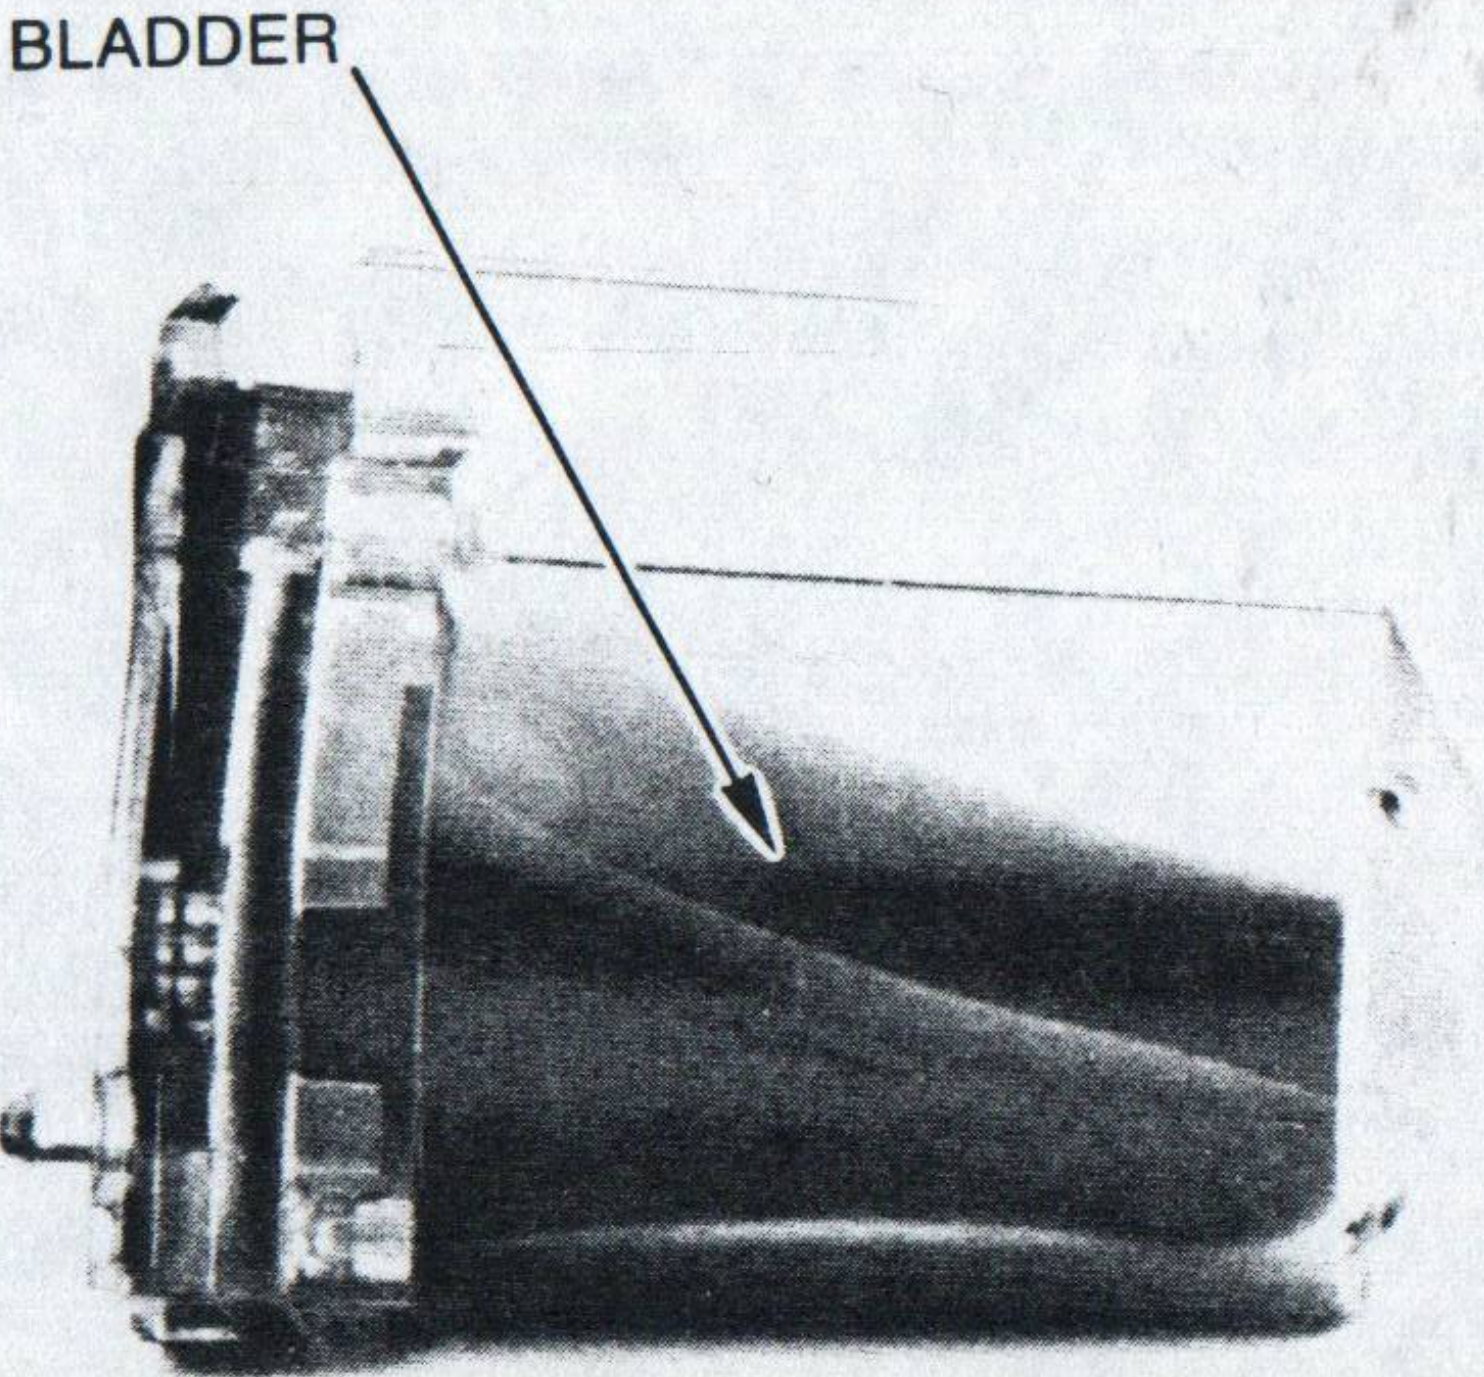
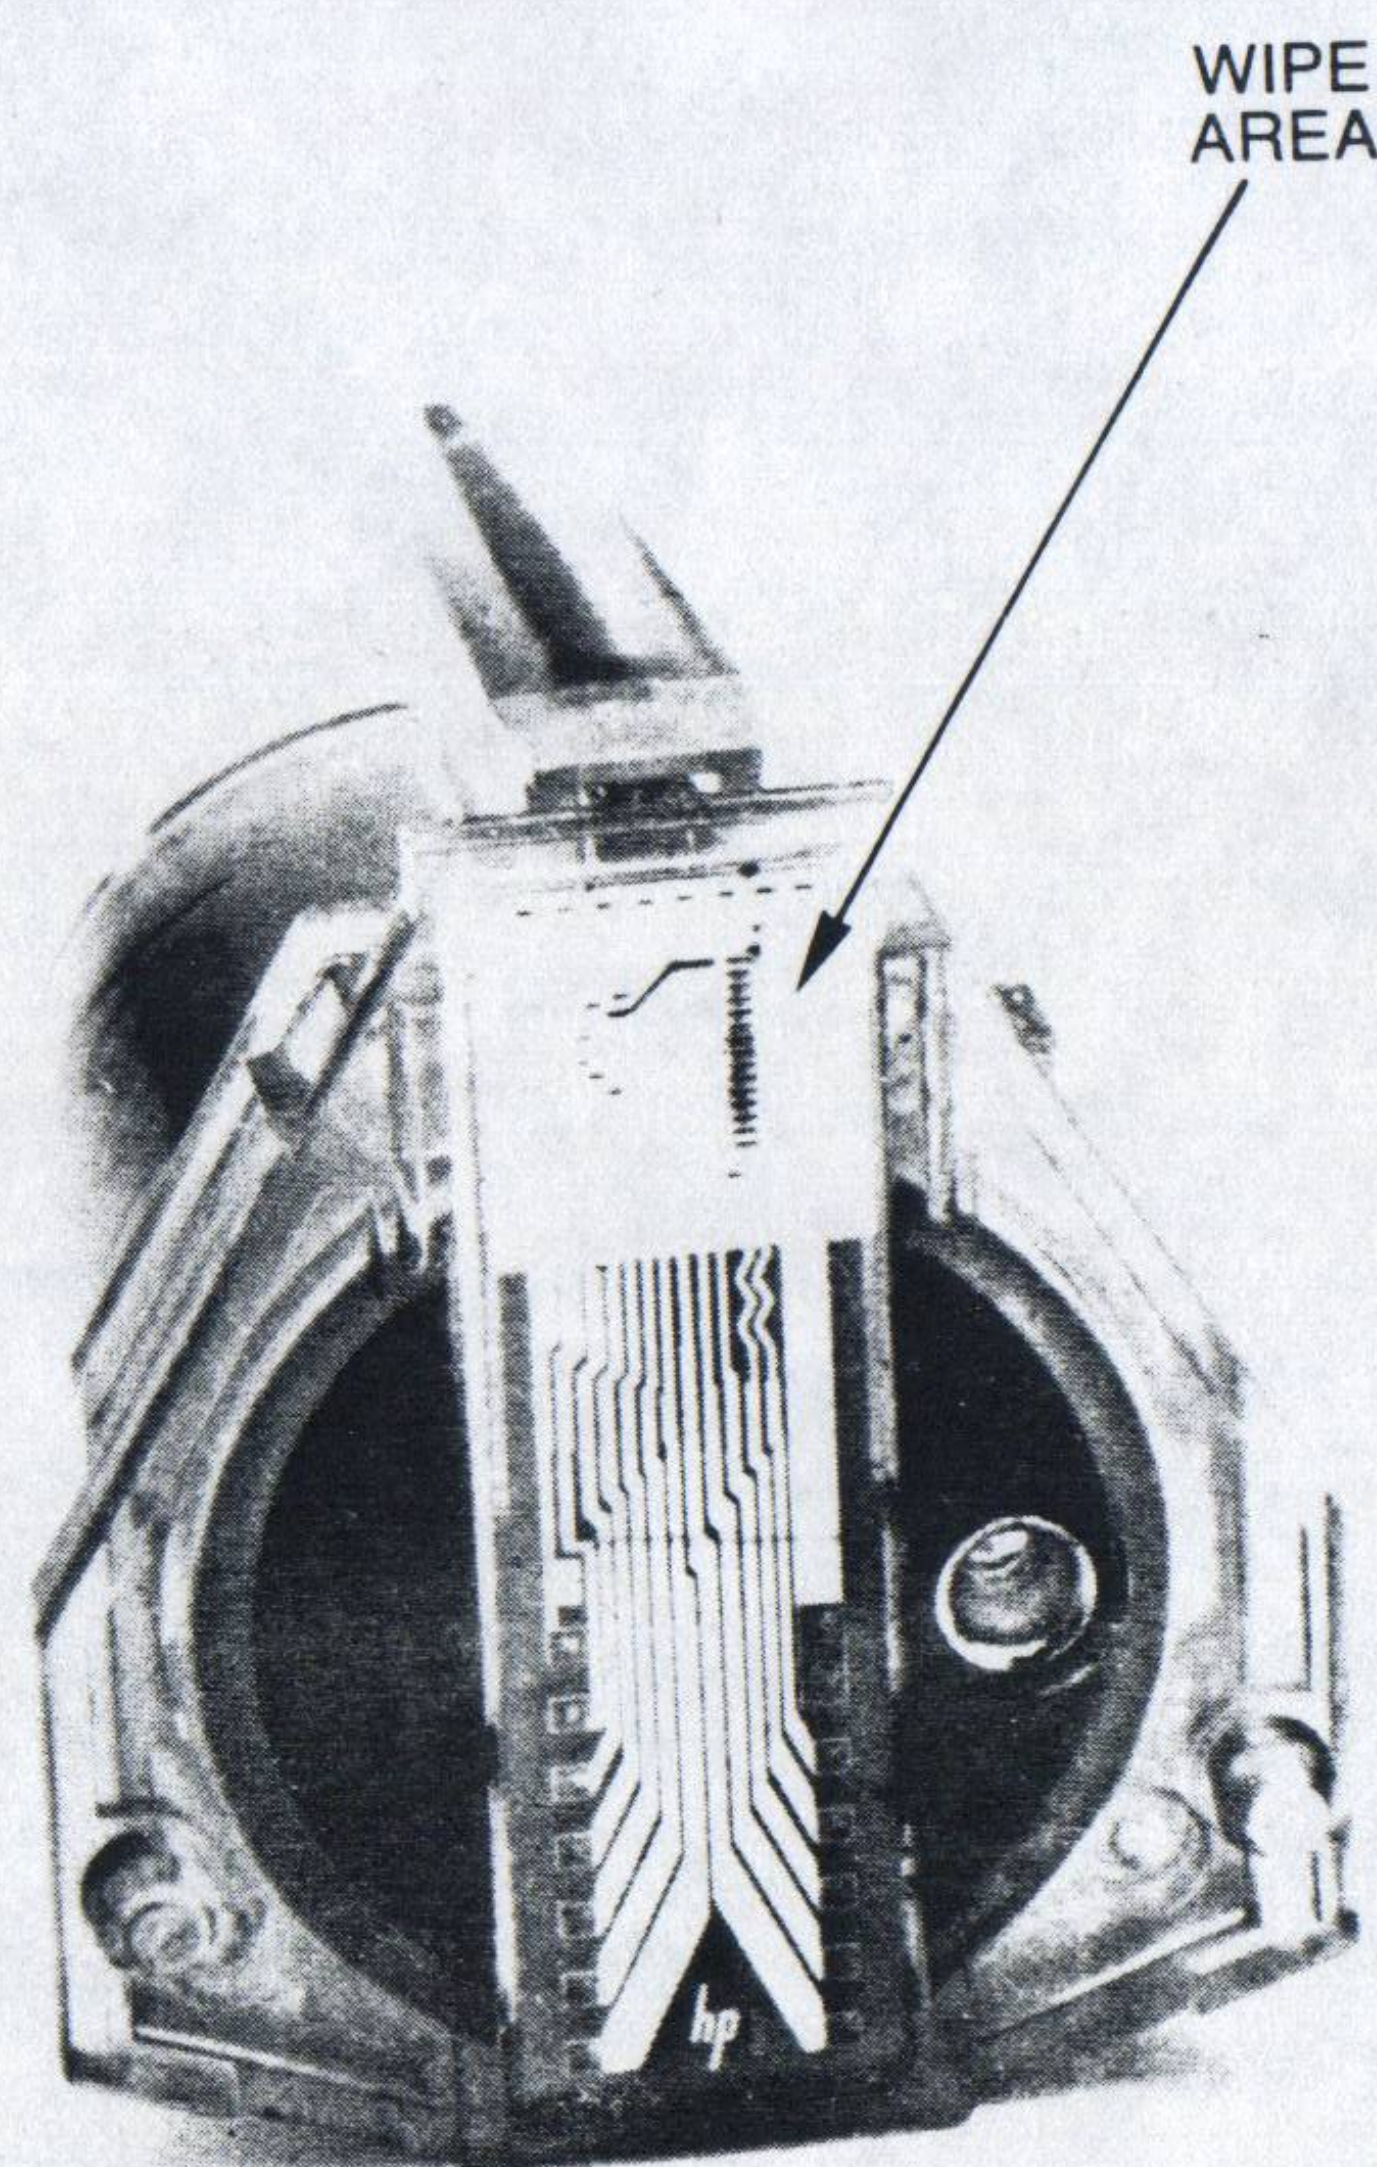
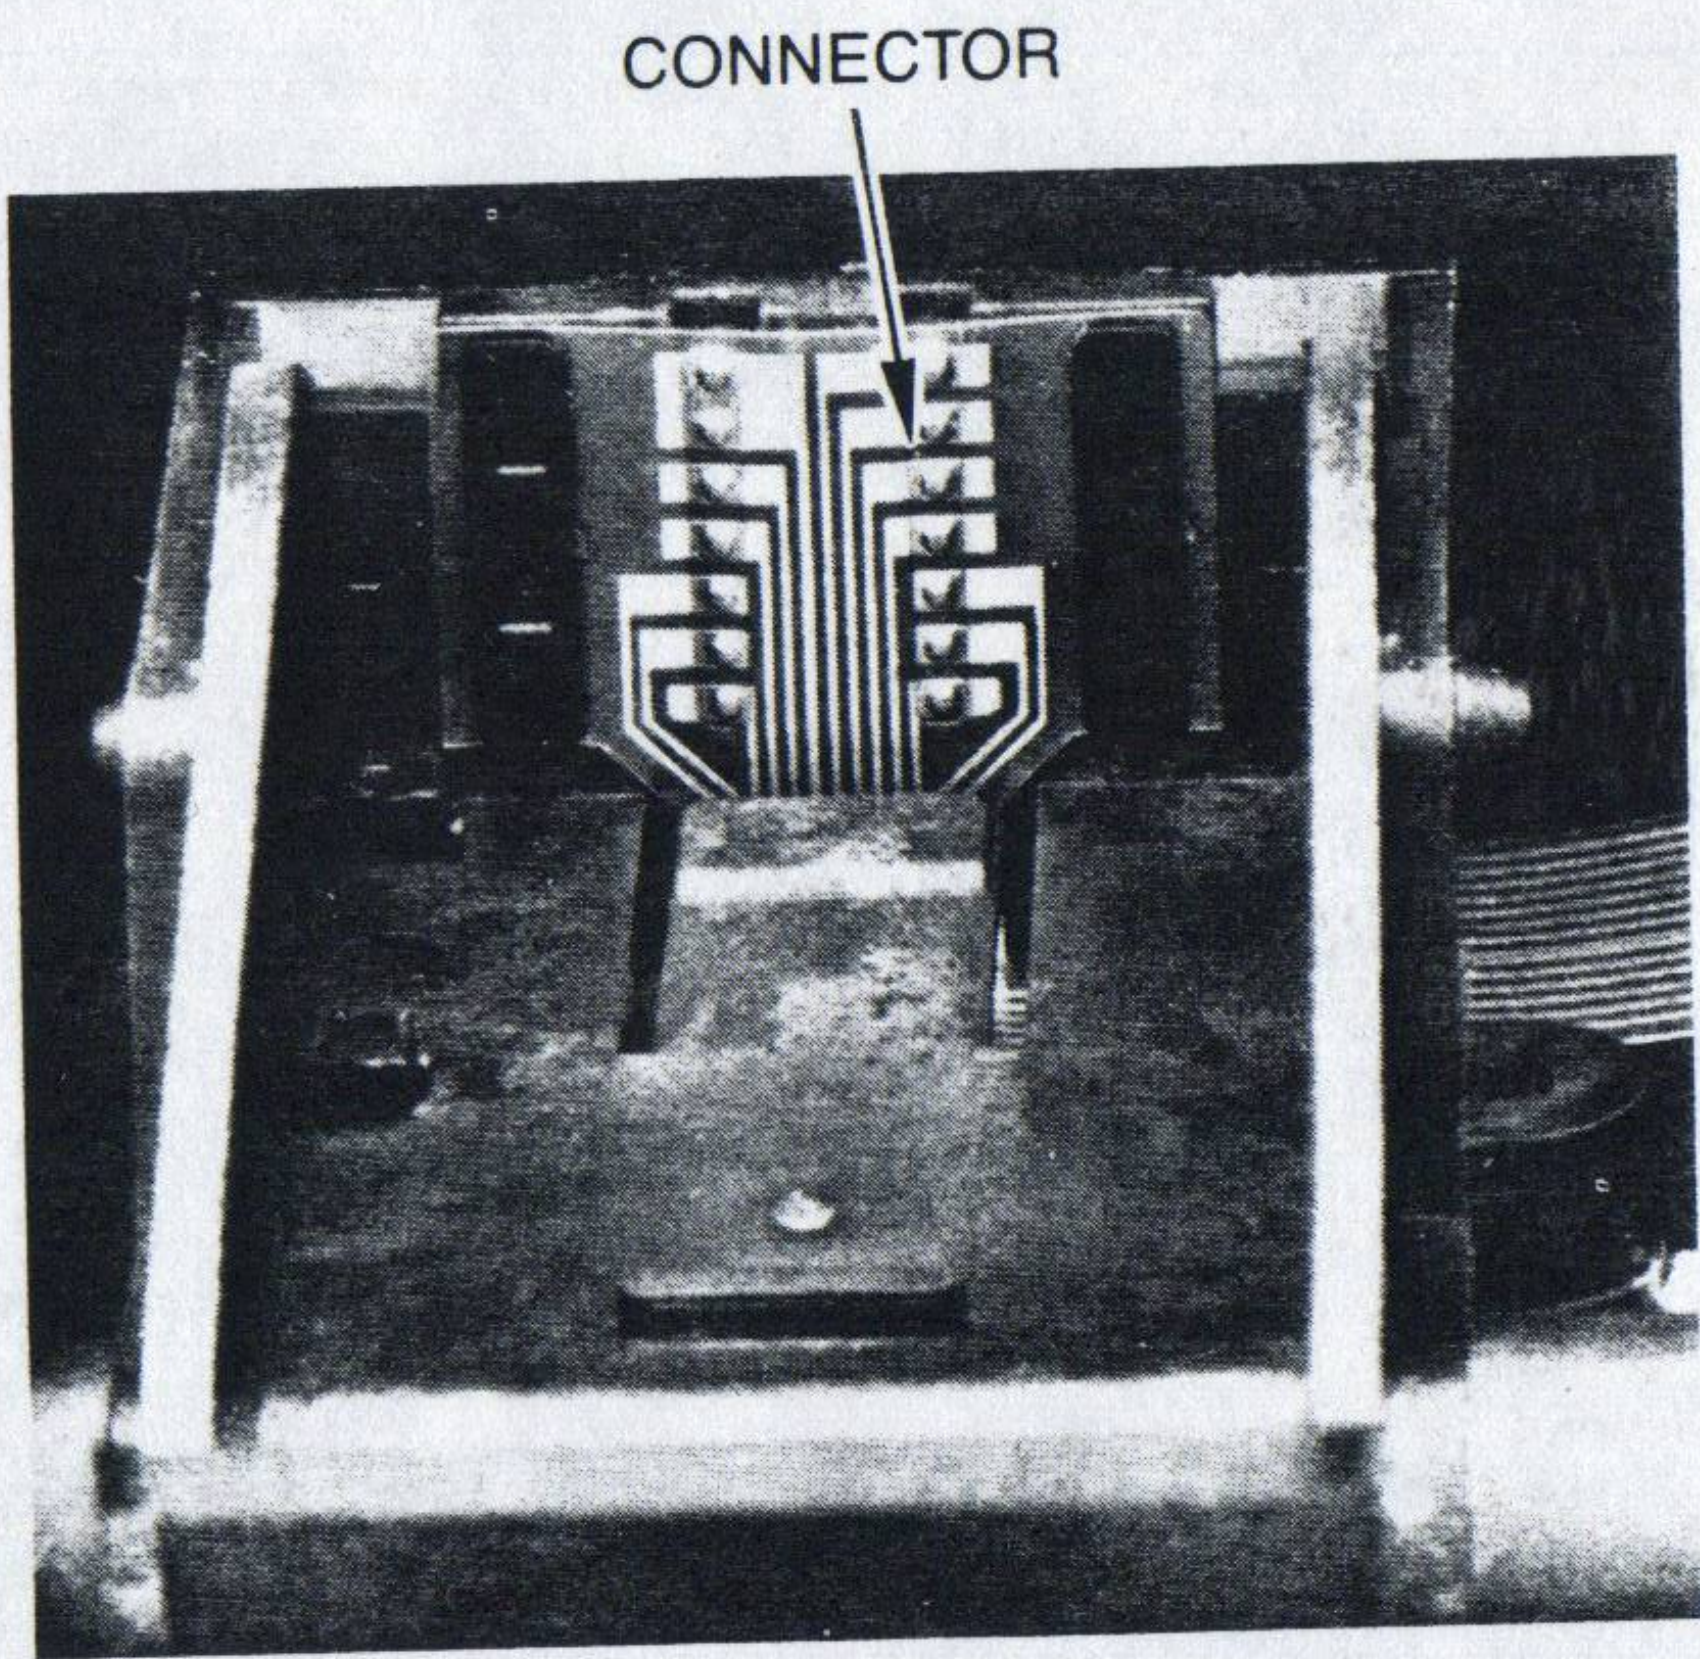

Figure 4-1 Empty Cartridge
Figure 4-2 Wipe Area
Figure 4-3 Carriage Electrical Connector
7. Print quality is poor, rows of dots are missing from printouts, or the carriage moves but produces no print.	<ul style="list-style-type: none">• Ensure that there is sufficient ink in the cartridge by viewing the bladder. If the bladder is collapsed, replace the cartridge (see Figure 4-1).• Ensure that the carriage latch is fully closed (see page 1-5).• Ensure that you are using a recommended ink jet paper.• Wipe the face of the print head using a tissue to remove any accumulated dust (see Figure 4-2). If the print head cartridge has not been used for a prolonged period, moisten the tissue with water before wiping.• Lightly wipe the electrical connector of the carriage using a cotton swab dipped in alcohol (see Figure 4-3).• If the problem continues, replace the print head cartridge.